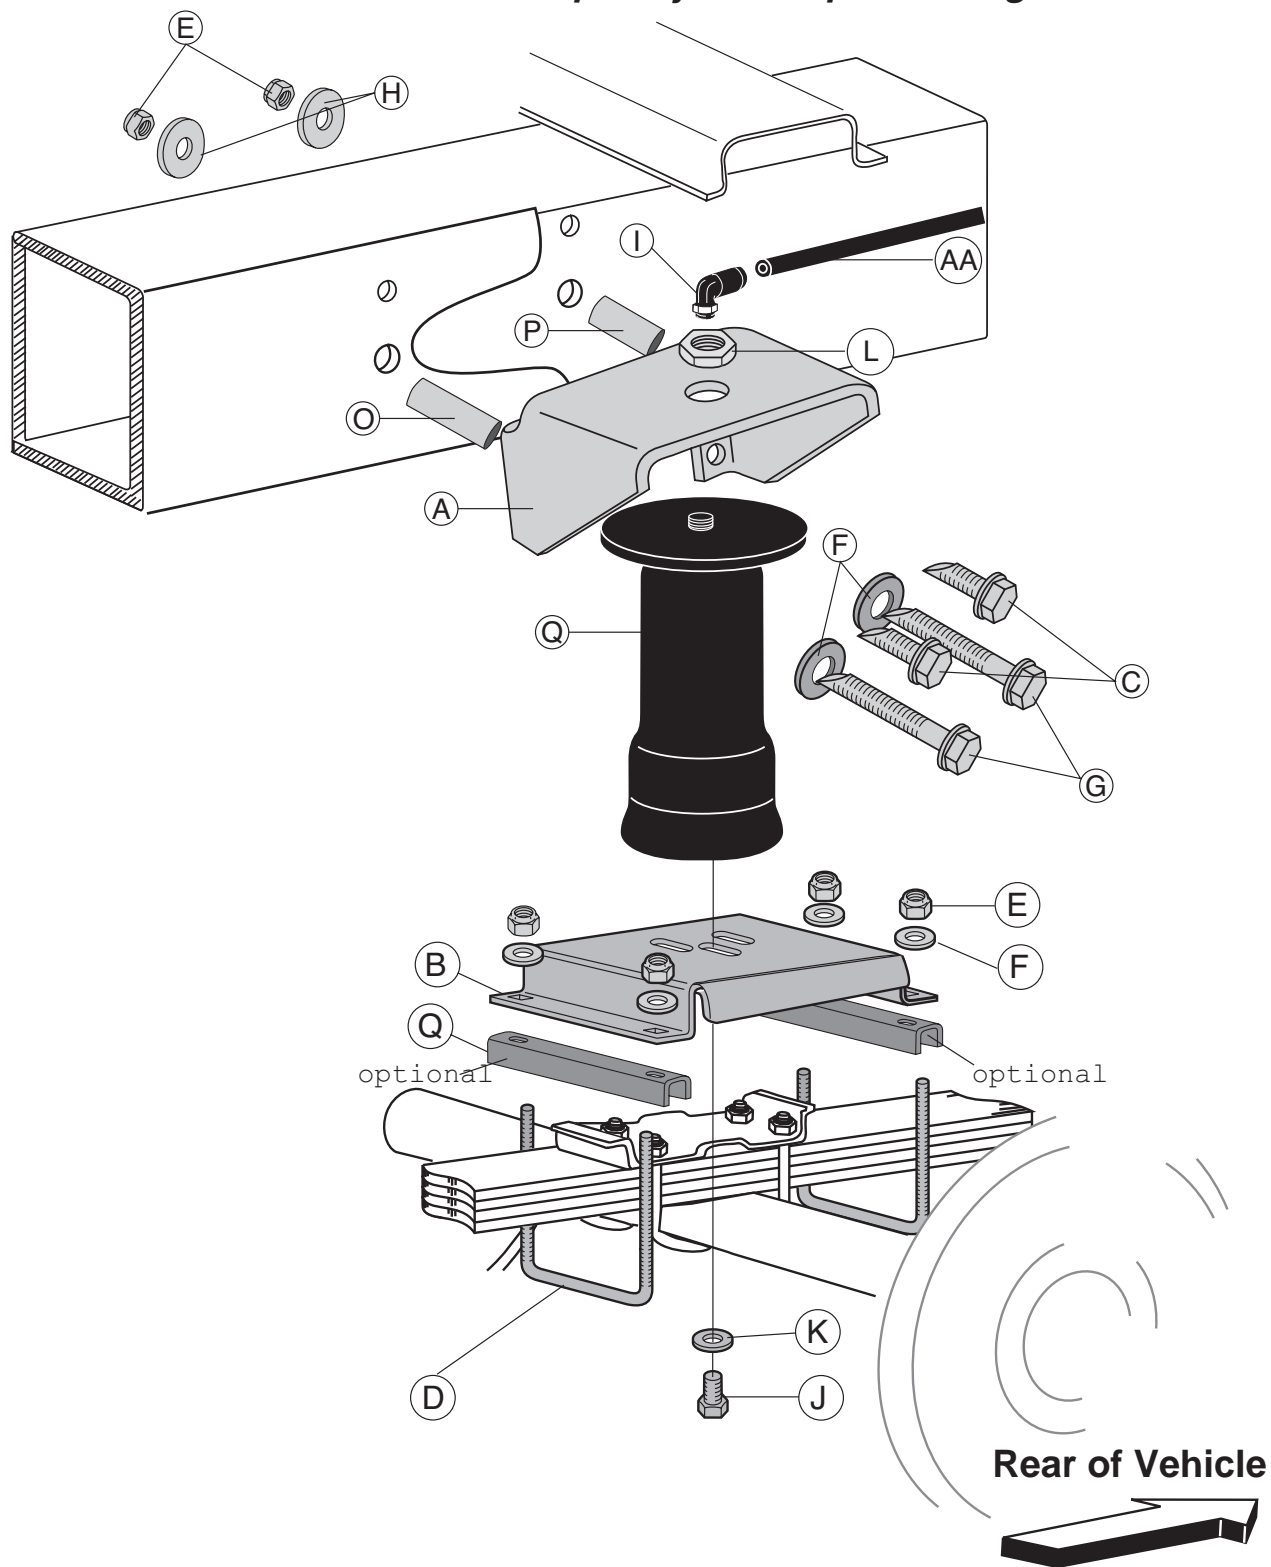

Figure 1
(* not shown in Figure 1)
2. Use the optional spacers (Q) for spacing the lower bracket up if the lower bracket hits on the stock U-bolts (Figure 1).
NOTE: *The front leg of the upper bracket will mount on the raised front portion of the frame and the back leg of the upper bracket will mount on the recessed, rear portion of the frame (Figure 1).*
5. The previously drilled 3/8" holes on the outside portion of the frame will need to be drilled out to 1/2" to provide enough room for the frame inserts to be installed into the frame (Figure 1).
6. Attach the upper bracket by inserting two 3/8 - 16 x 4" bolts (with flat washers) through the lower holes in the bracket. Install the long frame insert (O) on the front lower bolt. Install the shorter insert (P) onto the rear lower bolt (Figure 1).
1. Install 90 degree air swivel fitting (I) to the top of the air spring (Q) (Figure 1). Use a $\frac{7}{16}$ " open end wrench being careful to tighten on the metal hex nut only. Tighten 1 and $\frac{1}{2}$ turns. Do not over tighten.
2. Guide the fitting through the center mounting hole in the upper bracket (Figure 1).
3. Attach the air spring to the lower bracket using flat washer (K) and bolt (J). Leave loose for later adjustment.
4. Install a nylon nut (L) over the air fitting and onto the upper threadpost of the air spring (Figure 1). Tighten to 4 ft/lbs.